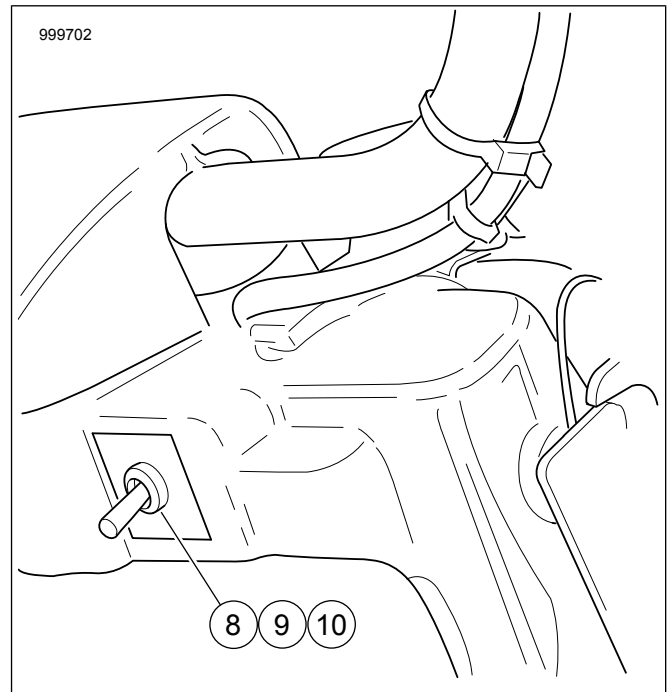

Figure 6. Non-Fairing Switch Location
- a. See Figure 6. Install nut (8), label (9), and switch (10) in right access hole.
- b. Plug harness, which is located under headlamp nacelle, to switch (10). See service manual.